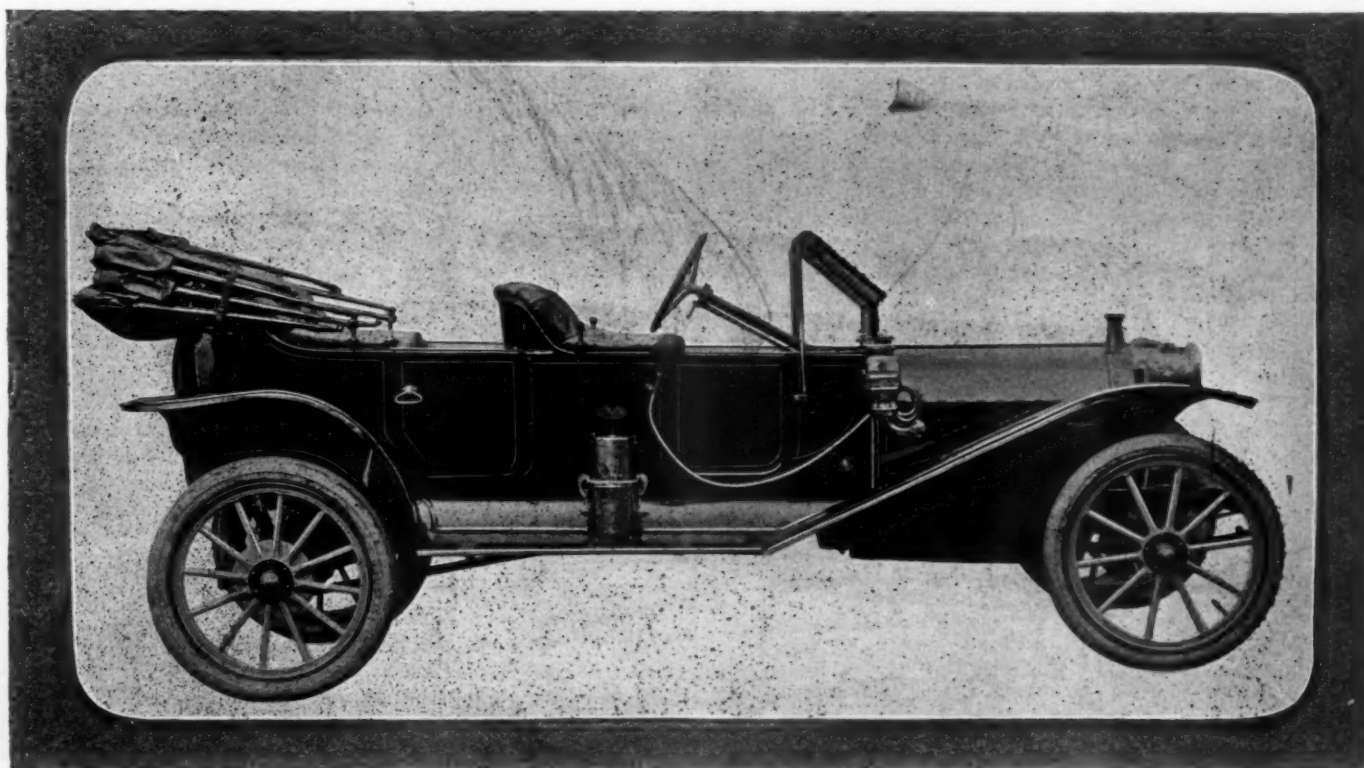
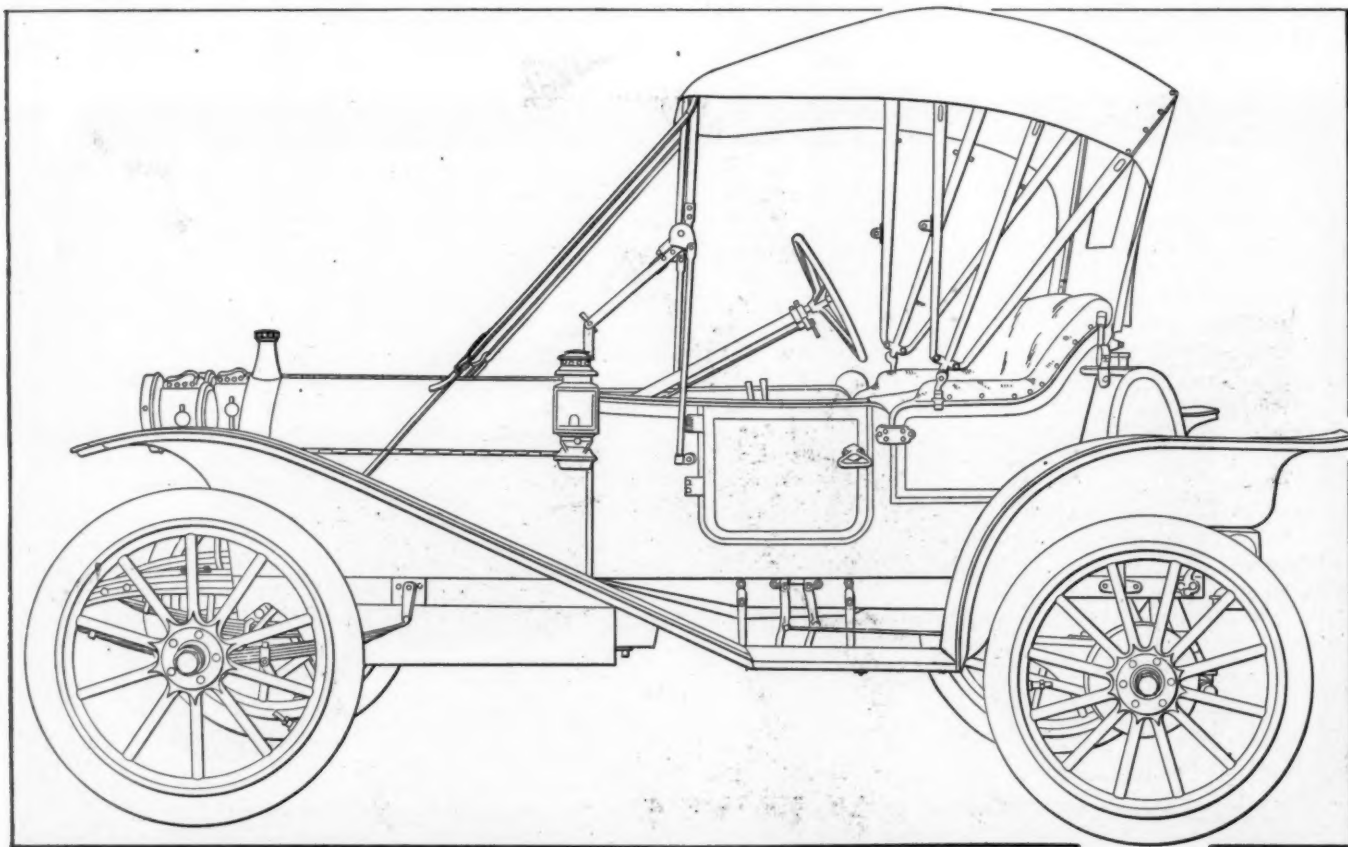
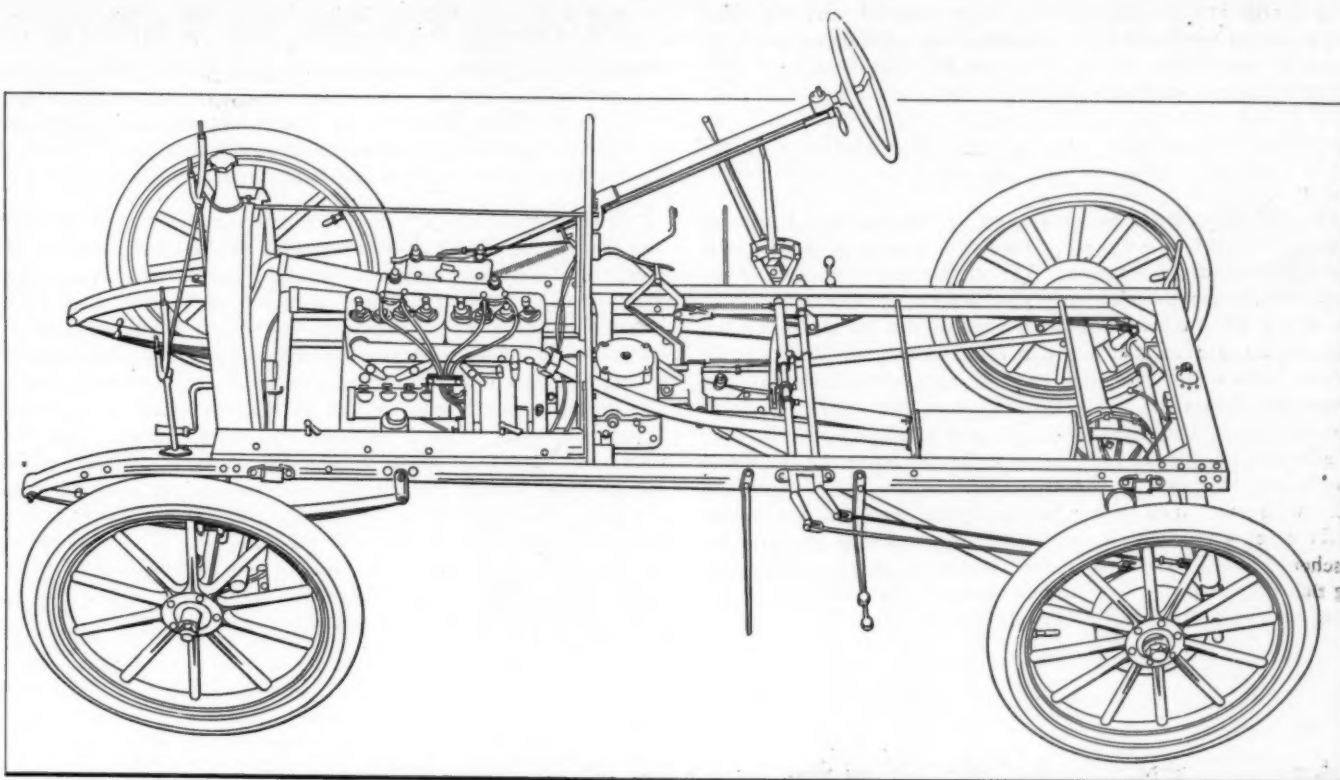

Fig. 1—Depicting the latest type of Hupmobile touring car with foredoors and a straight line design
Fig. 2—Showing the foredoor type of runabout with the top up showing the gasoline tank back of the seat
Fig. 3—Showing the chassis complete, the relations of the unit, and the location of the power plant
**M**ADE in Detroit by the Hupp Motor Car Company, the automobiles as described in this article are in the nature of a revision of the last year's work, and the five choices offered to the company's clientèle are in connection with two designs of chassis, one of which has an 86-inch wheelbase, with a 54 or 58-inch tread, and the larger model represents a 110-inch wheelbase with a 54 or 58-inch tread. The latest effort of the company is depicted in Fig. 1, of the foredoor
Referring to the 86-inch wheelbase car and to Fig. 2, it will be seen that the general idea involved in the designing is not different from that which obtains in the touring car as shown in Fig. 1, and it is a noteworthy characteristic of this model that the center of gravity of the mass is close to the ground, and this excellent faculty is obtained through the method in vogue involving a spring suspension, thereby saving the ground clearance, which is an important consideration, and referring to Fig. 3 the details of this chassis design are clearly depicted, showing the lateral spring at the rear, the same being swung back of the center line of the axle, with supports radiating from the axle for the same. This idea in spring designing and suspension work has been a feature of the Hupmobile from the start, and its practicability has been proven in actual service. A study of the design will show that it is due to this method of suspending the chassis frame that permits of the low and sweeping effect for which this type of car is noted, and it is this detail that has more to do with the realization of a low center of gravity without interfering with ground clearance than any other design idea involved in the undertaking.
Fig. 3 shows the radiator in the plane of the front axle, and a